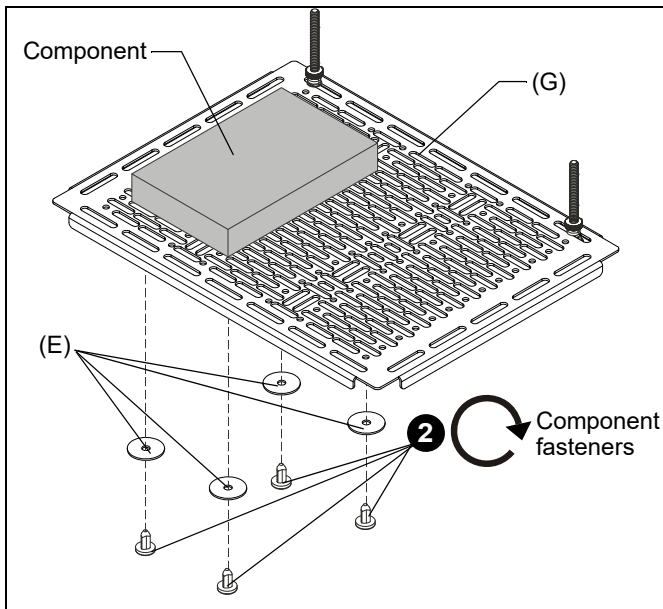

Figure 5
1. Place component(s) on mounting plate (G), and position in the desired location with the hole pattern in mounting plate best aligned to component mounting holes. (See Figure 5)
2. Using the fasteners provided with the component and the washers (E), attach the component to the mounting plate (G). (See Figure 5)